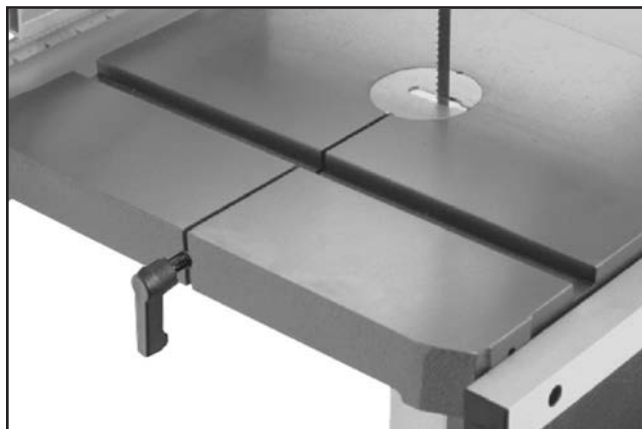

Figure 16. Table pin and insert installed.
12. Re-install the table insert and table pin, as shown in **Figure 16**.